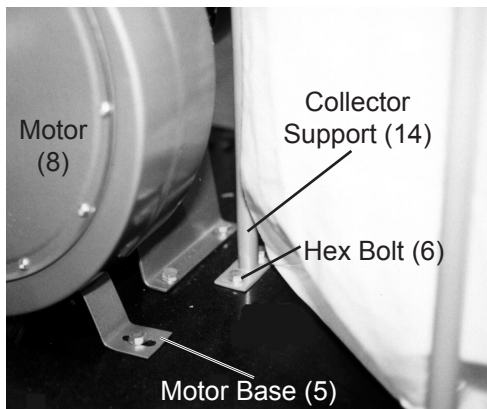

Figure 2
- c. Step 3) Attach the second Collector Support (14) through the inside holes near where the Motor Base (5) will be mounted. (See Figure 2.) Insert Hex Bolt (6) down through Washer (4) and Base Plate (3) and secure in place with Nut (2). (See Figure 2.)
- d. Step 4) The Fan Housing (38) is attached to the Motor (8) and Motor Base (5) as a single unit. Secure the Motor Base (5) to the Base Plate (3) using six (6) Hex Bolts (6), six (6) Washers (4) and six Nuts (2). (See Figures 2 and 3.)